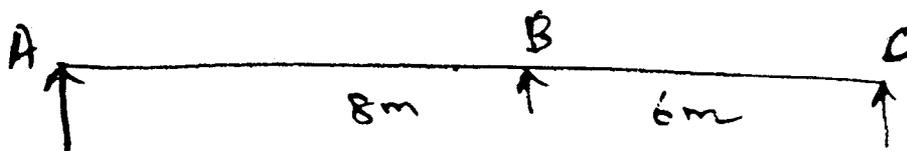

Fig. 11 (a)
11. (a) Draw the influence line diagram for the support moment B of the beams shown in Fig. 11(a). Take ordinates at 2 m interval EI is constant.